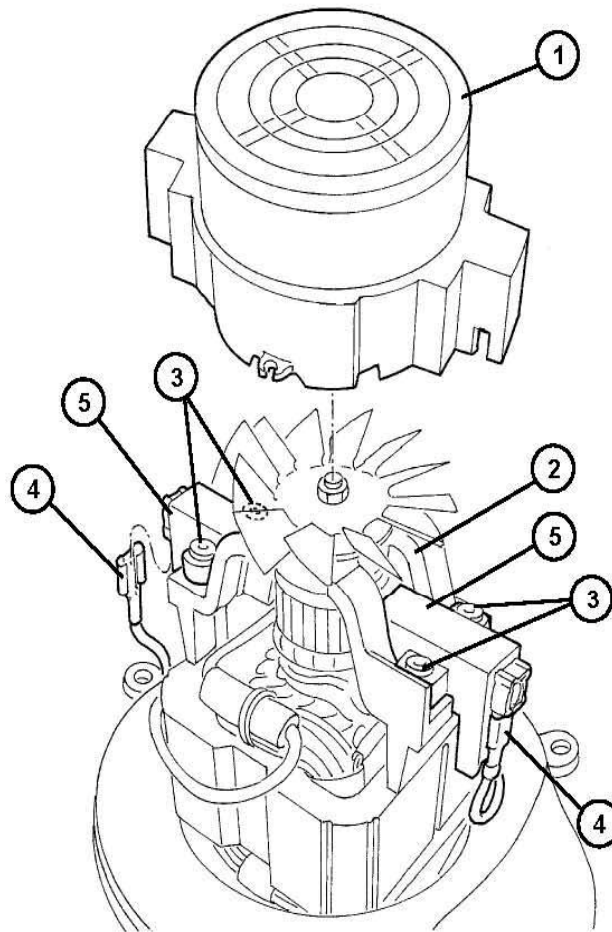

Figure 8-3
2. Remove the cover (1, **Figure 8-3**) from the vacuum motor (2), by disengaging the inner retainers.
3. Unscrew the screws (3).
4. Disconnect the electrical connections (4).
5. Remove the carbons (5).